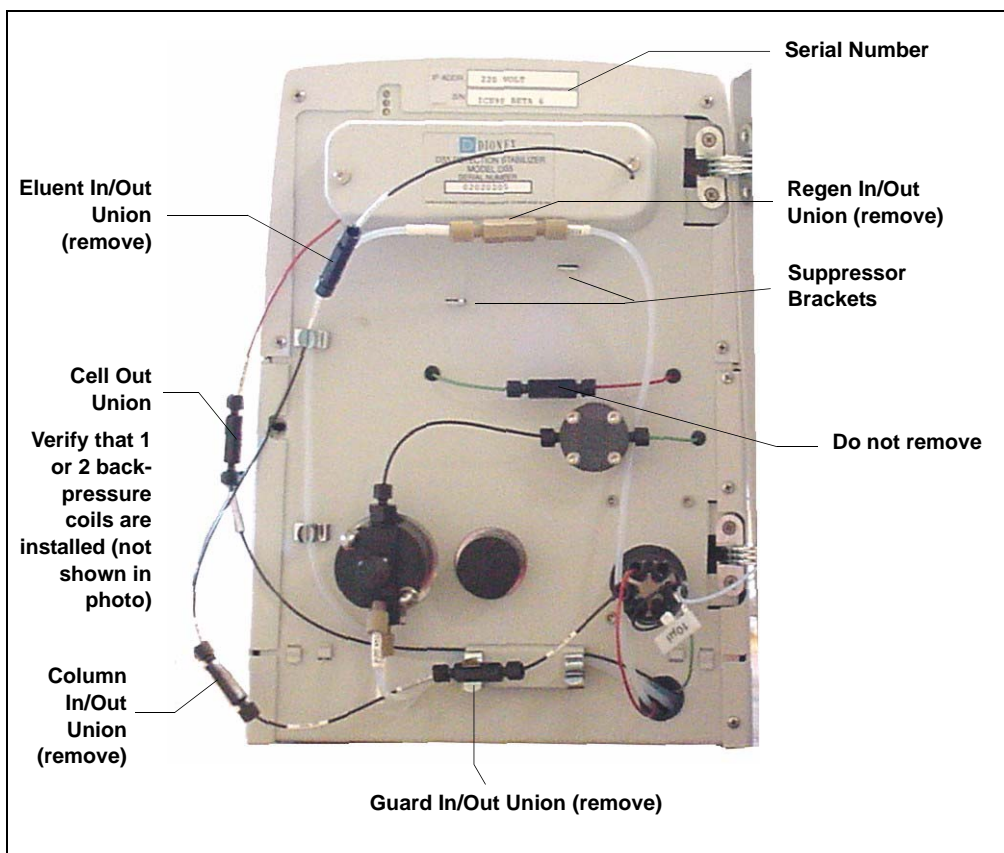

Figure B-17. ICS-90 Component Panel (Door not shown)
5. On the **General** tab page, **Live Mode** is selected by default. Select the ICS-90 serial number from the drop-down list. If you are installing more than one ICS-90, you can verify the serial number for each system by checking the label at the top of the component panel (see Figure B-17).
2. Plumb the guard and separator columns. Refer to the labels on the tubing, to Figure B-17, and to the following instructions.